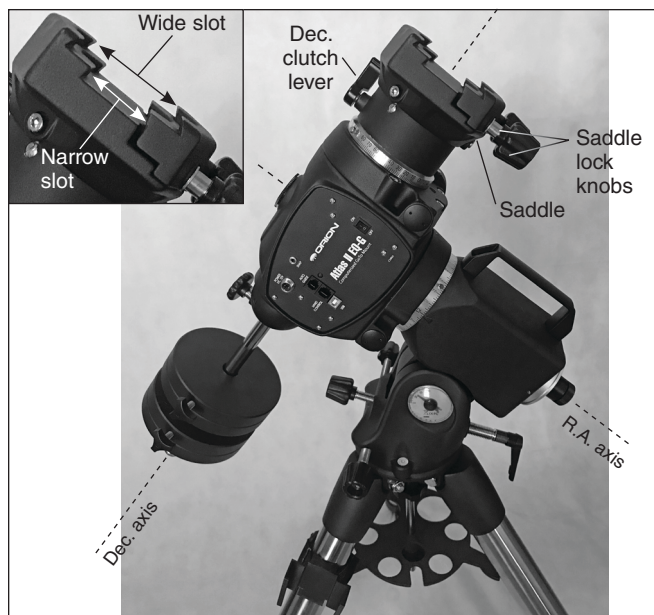

Figure 10. The Atlas II is assembled and oriented properly for mounting of a telescope optical tube
Your Atlas II EQ-G mount is now fully assembled and should resemble **Figure 10**.
The Atlas II EQ-G equatorial mount is designed to hold telescope tube assemblies weighing up to 44 lbs. For heavier telescopes, the mount may not provide sufficient stability for steady imaging. The dual-width saddle of the Atlas II EQ-G mount is designed to accept either a narrow or a wide dovetail plate (**Figure 10**). The narrow (lower) slot is designed for a 45mm-width dovetail plate and the wide (upper) slot grips a 75mm-width plate.
1. Loosen the Dec clutch lever and rotate the saddle until the dovetail slot runs side to side, with the two saddle lock knobs pointing to the rear of the mount, as in **Figure 10**. Then tighten the Dec clutch lever.